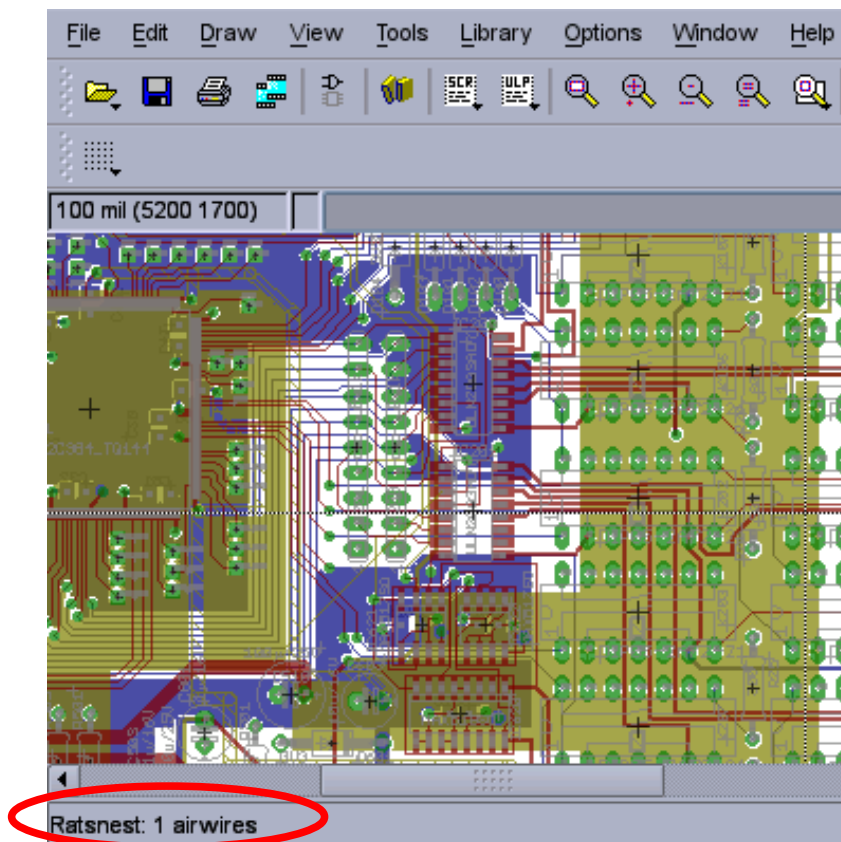

Figure 28: Ratsnest Output
1. To make sure polygons are still integer run the command "ratsnest" from time to time. The ratsnest result is shown in Figure 28.¹²